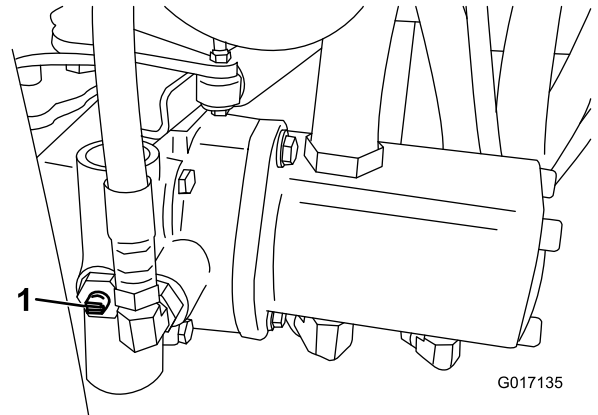

Figure 31
1. Locate the bypass valve on the pump and rotate it so that the slot is vertical (Figure 31).
2. Before starting the engine, close the bypass valve by rotating it so that the slot is horizontal (Figure 31). Do not start the engine when the valve is open.